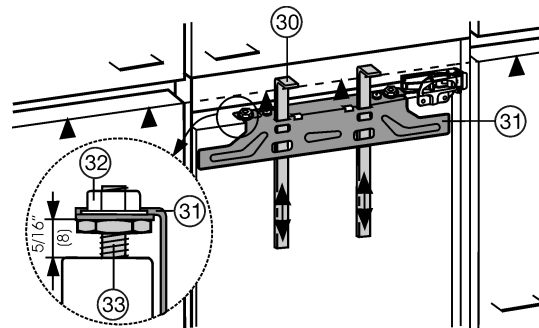
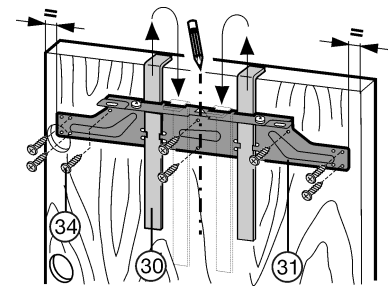

Fig. 30
Fig. 31
- Raise the fitting aids *Fig. 30 (30)* to the unit door height. Bottom stop angle $\blacktriangle$ of fitting aid = upper edge of the unit door to be fitted.
- Unscrew the crosspiece *Fig. 31 (31)* by undoing the locknuts *Fig. 30 (32)*.
- Hang the crosspiece *Fig. 31 (31)* on the inside of the unit door using the fitting aids *Fig. 31 (30)*.
- To center the crosspiece *Fig. 31 (31)*: Mark a short center line on the unit door and put the tip of the arrow on the crosspiece on it.
- ▶ To align the crosspiece *Fig. 31 (31)*: Mark a short center line on the unit door and put the tip of the arrow on the crosspiece on it. Then slide the crosspiece *Fig. 31 (31)* 3/16 in. (5.5 mm) toward the hinge side.
- ▶ Secure the crosspiece *Fig. 31 (31)* with at least 6 screws *Fig. 31 (34)*.
- ▶ Secure the crosspiece *Fig. 31 (31)* with 4 screws *Fig. 31 (34)* at the edge.
- ▶ Lift up the fitting aids *Fig. 31 (30)*, turn around and insert into the adjacent openings.